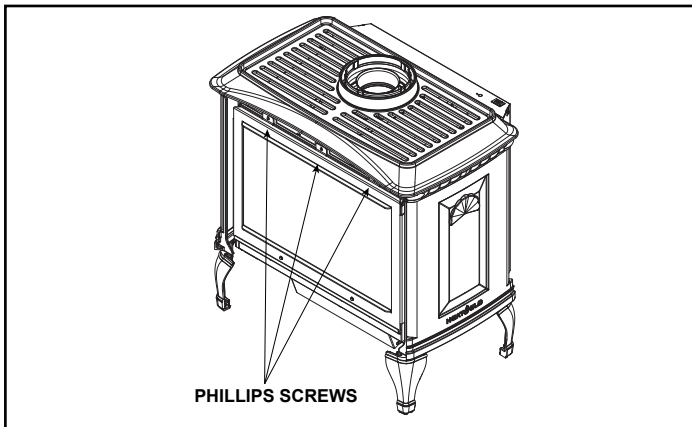

Figure 11. Remove Glass Frame
10. Using a #2 Phillips screwdriver, remove the three screws on the front glass assembly and take the glass assembly off the appliance. See Figure 11.